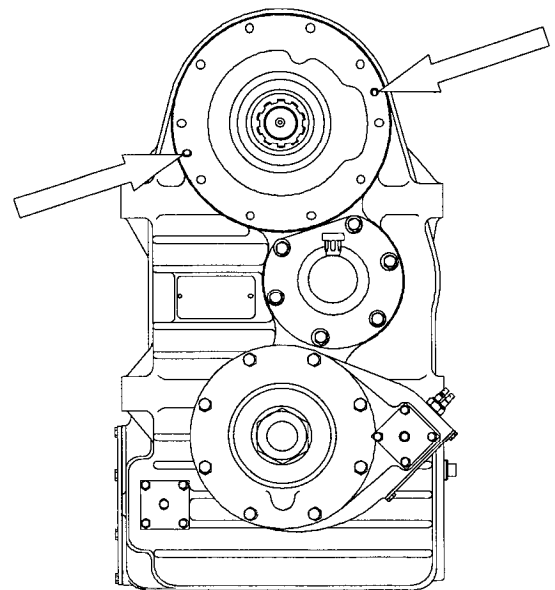

Fig. 23
23. Screw two (2) 7/16-14 NC bolts into the carrier to aid in lifting it from the transfer case housing. See Fig. 23.